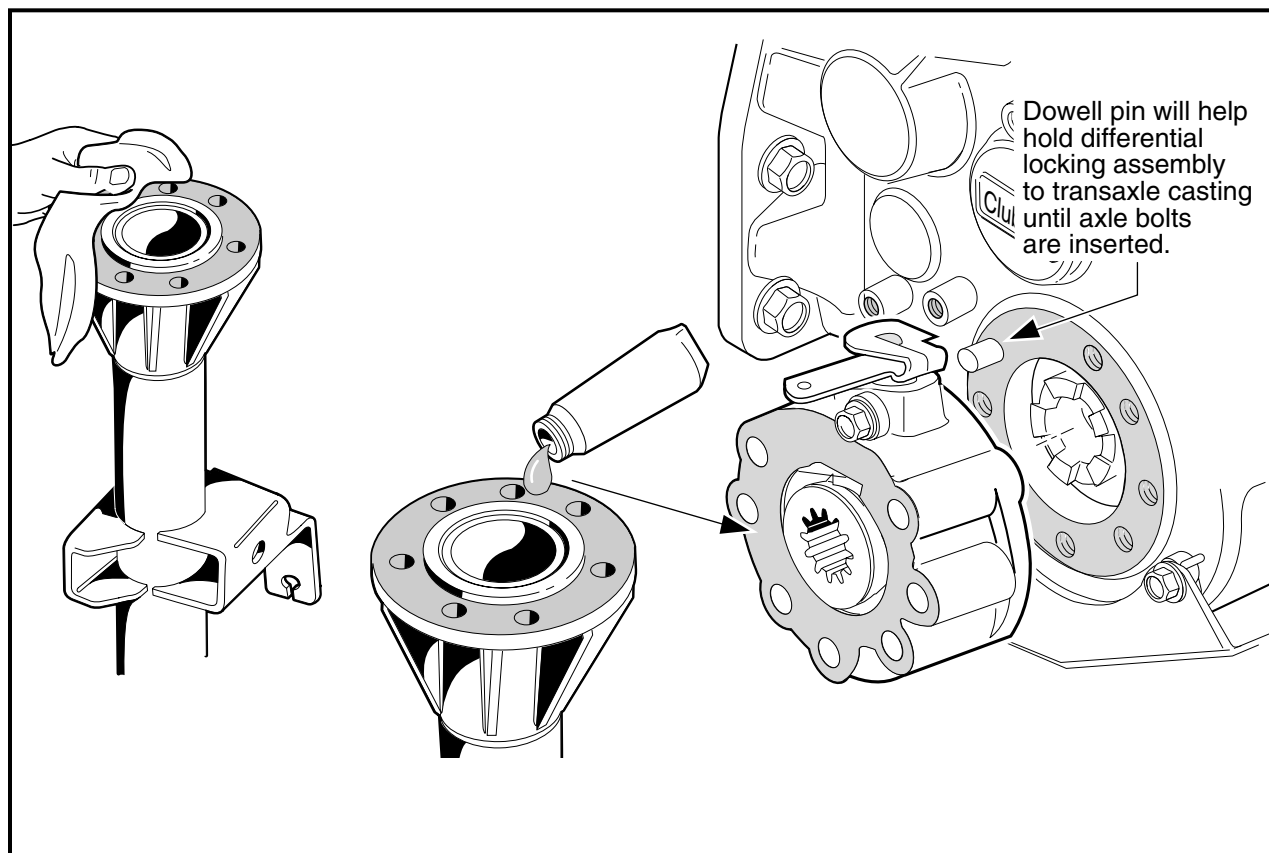

Figure 16a-90 Seal Axle Tube Surface
- 12.2. Apply a continuous bead of Three Bond no. 1215 (CCI P/N 101928701) around the opening on the mating surface of the left (driver) side axle tube as shown (**Figure 16a-90, Page 16a-40**). Then position the axle tube on the left side of the transaxle case to the differential lock housing as shown and install eight mounting bolts (95) (**Figure 16a-9, Page 16a-8**) finger tight. In the sequence shown, tighten the bolts to 36 ft-lb (48.8 N·m) (**Figure 16a-91, Page 16a-41**).